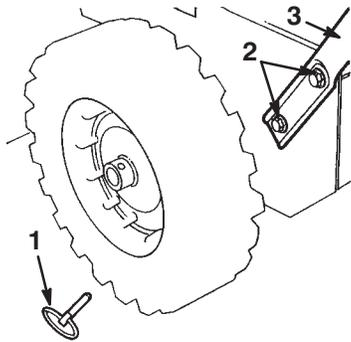

Figure 2
2. Remove the axle pins from both wheels (Fig. 2) and slide the wheels outward on the axle approximately 1 inch (2.5 centimeters).
4. Position the left side of the handle assembly against the left side of the snowthrower, align the handle mount holes with the holes in the side plate, and secure the left side of the handle assembly with 2 bolts and curved washers until they are finger tight (Fig. 2).